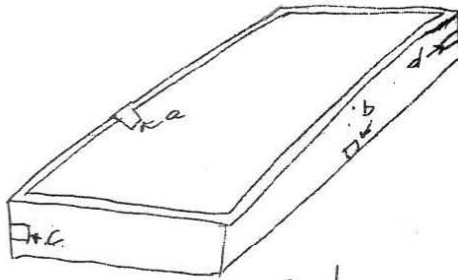

FIGURE 1
- A. Glazed flat plate collector or ICS unit – 5 sets of 4 labels – see Figure 1: